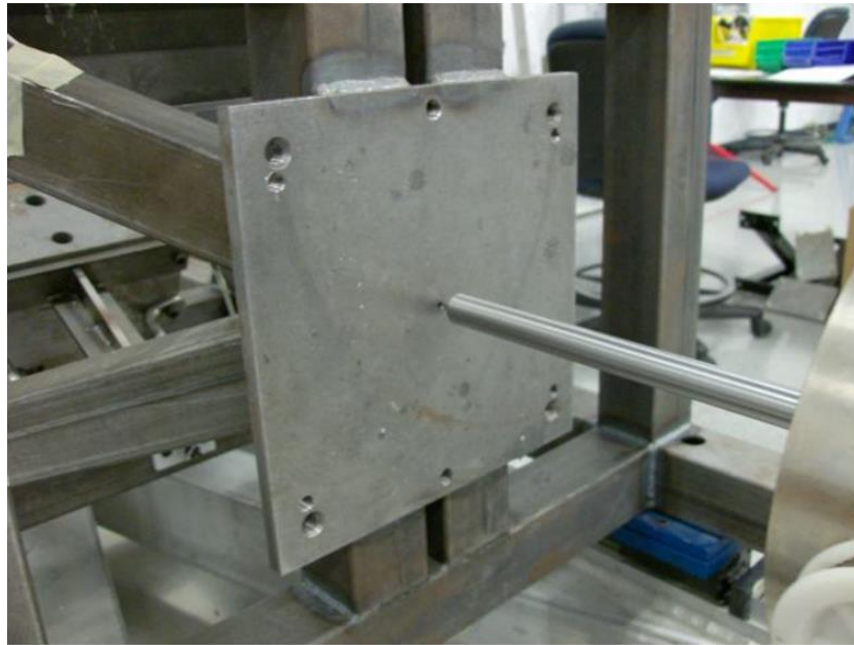

Figure 1: Impact Probe Alignment
- With the impact probe free hanging, align the probe centerline to the alignment hole on the face of the impact sled as shown in Figure 1.
- With the impact probe free hanging, align the probe centerline to the alignment hole on the face of the impact sled as shown in Figure 1 above.
- With the impact probe free hanging, align the probe centerline to the alignment hole on the face of the impact sled as shown in *Figure 1*.